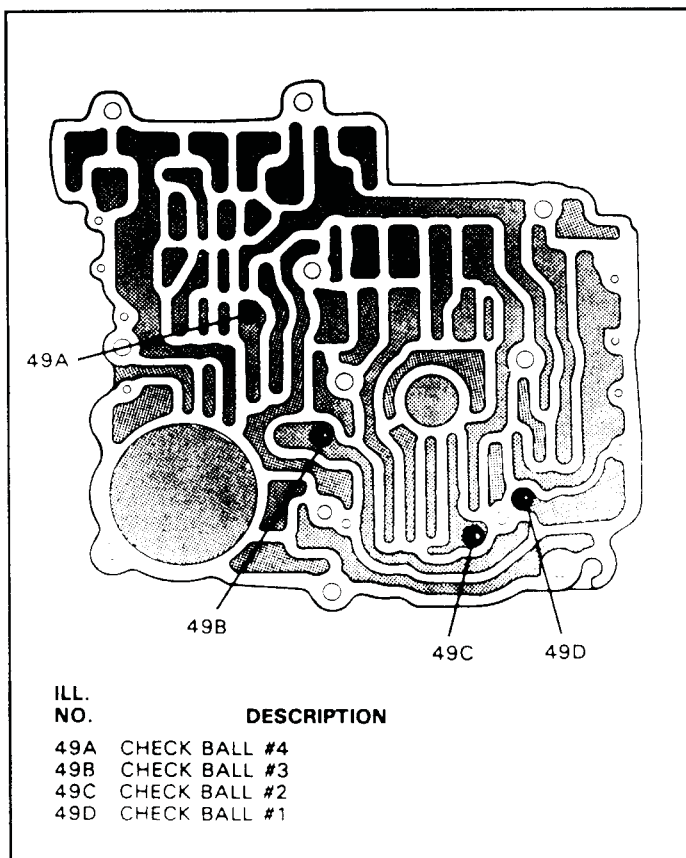

Figure 116
7. Install four (4) steel checkballs into the valve body, in the locations shown in Figure 116, and retain with a small amount of "Trans-Jel".